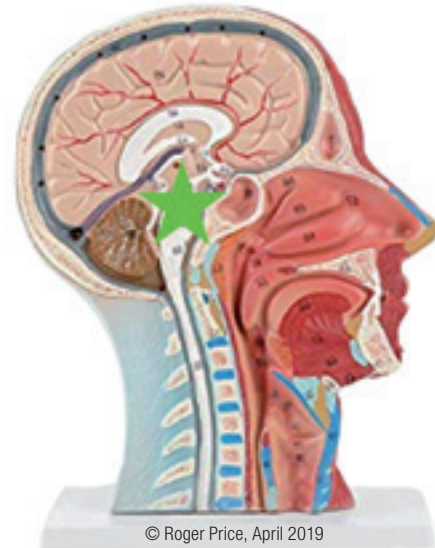

Fig. 1: What makes us breathe?
**Fig. 1:** The patient from the frontal facial smiling view (A & B) and the intraoral anterior view (C) before and after the delivery of the thermoformed retainer with the custom provisional pontics.
Before attempting to discuss what constitutes functional as opposed to dysfunctional breathing, it is necessary to understand the mechanism of breathing in all its complexity. Functional breathing is initiated when the carbon dioxide ( $\text{CO}_2$ ) level in the arteries ( $\text{PaCO}_2$ ) reaches 40 mm Hg and stimulates the medullary response at the base of the brain. This in turn sends a signal to the diaphragm, causing it to contract and relax, and so the breathing cycle is maintained. So what goes wrong (Fig. 1)?